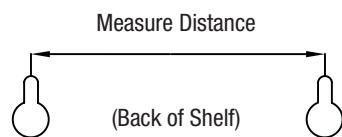

Figure 1
STEP 2: Draw a line on the wall using the level in order to determine where the screw holes will be located. Measure the distance that will be required between the screws in order to mount the decorative ledge. Mark the positions of the screws in the desired locations as shown in **Figure 1**.